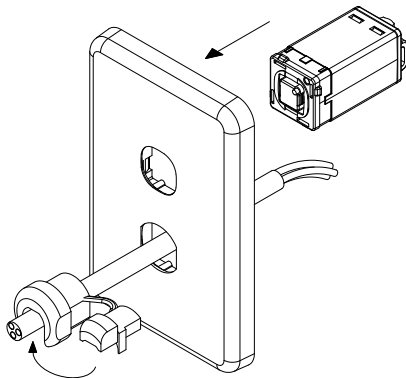

Fig 2: Fit the HNS710RT to the wall plate & fit the cable clamp to the cable
- Clip the HNS710RT to the wall plate and fit the cable clamp to the cable, as shown in Fig 2.